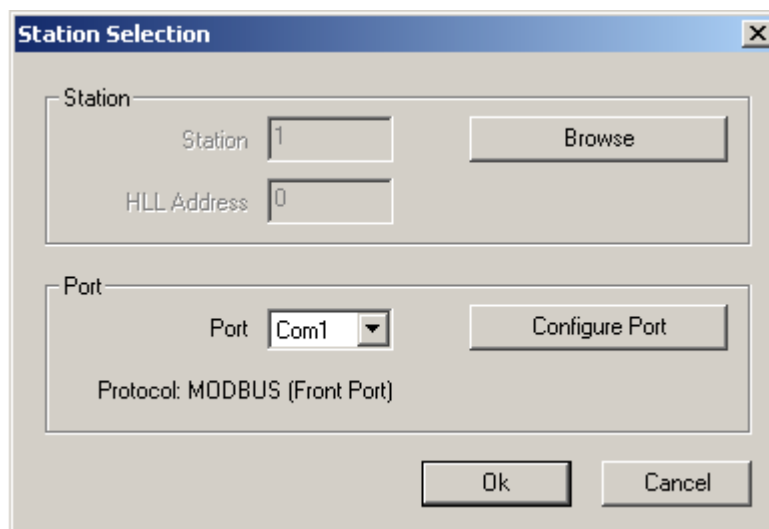

Figure 5-12 Select Station to upload from dialog
1. Select **File > Upload**. The Select Station dialog displays; see Figure 5-12.